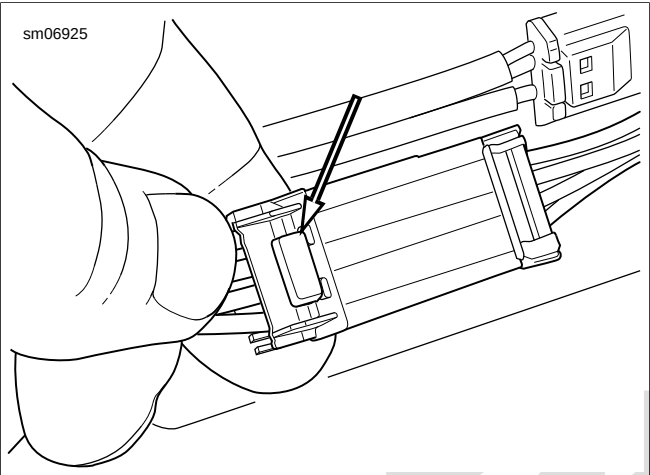

Figure A-39. Release Buttons: JAE MX19 Sealed Connector
**Separate Housings:** See Figure A-39. Press the two release buttons on each side of the housing to separate the connector.